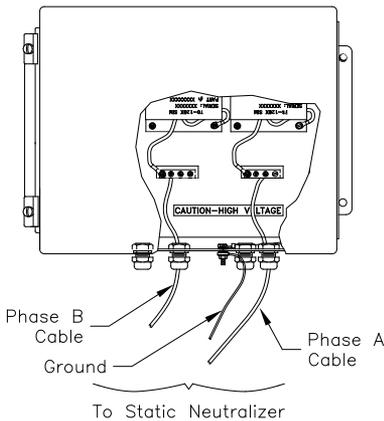

Figure 2. High Voltage Wiring to Static Neutralizer
3. Feed the high voltage cables through the grey bushings on the bottom side of the box (see Figures 2&3 above).